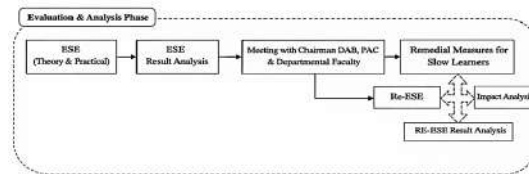

Figure 2.1.4: Evaluation & Analysis Phase in Teaching–Learning Process
C.3.Evaluation & Analysis Phase: Department Evaluation and Analysis phase involved in Teaching learning Process is briefly explained in Figure 2.1.4